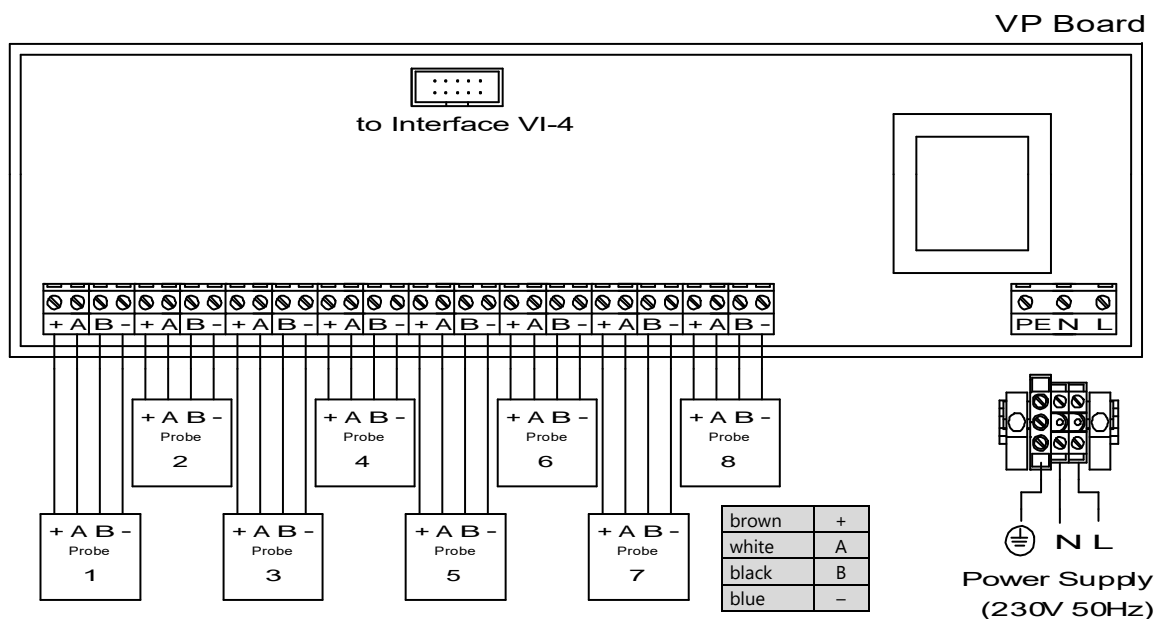

Figure 4: VPS-L pressure sensor connection to the VP board in the VISY-Command
- (1) Connect the M12 coupling plug of the FAFNIR connection cable with the pressure sensor. Extending the cable is possible if the specifications of the FAFNIR connection cable listed in chapter "Technical data" are met.
- (2) Open the casing cover of the VISY-Command
- (3) Insert the free wires of FAFNIR connection cable in a free cable gland of the VISY-Command.
- (4) Connect the free wires (brown, white, black, blue) of the FAFNIR connection cable with the screw terminals (+ A B -) of the connection strip of the VP measuring transducer according to the connection diagram (see Figure 4).